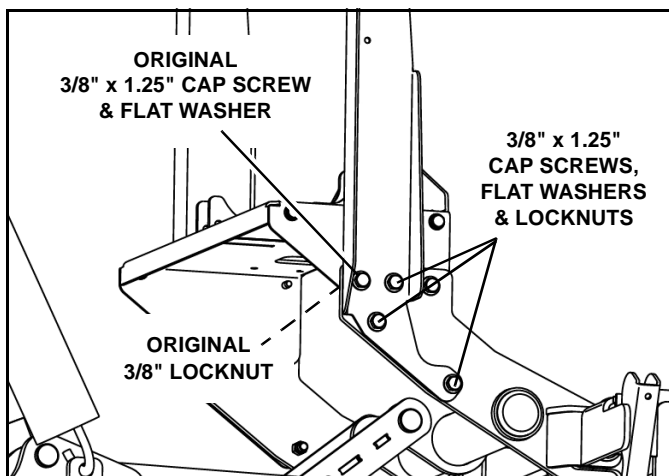
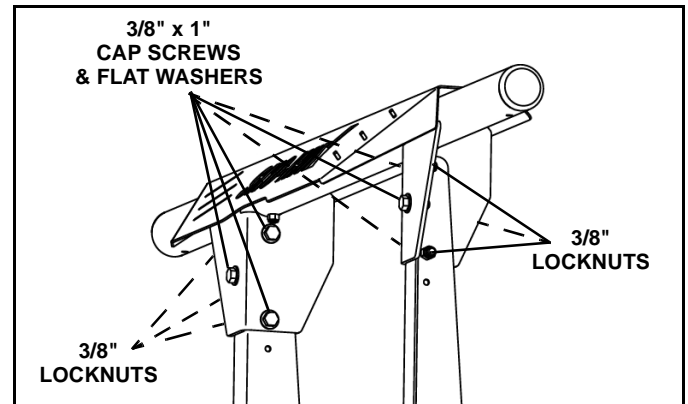

Figure 1-15
Figure 1-16
21. Position the DS light support bracket in position against the LLLB and power unit platform and loosely secure with the original cap screw, flat washer and locknut. (See Figure 1-15).
22. Install (3) 3/8" x 1.25" cap screws with (3) flat washers and (3) locknuts from the provided parts into the remaining three light support bracket holes, but do not tighten completely. (See Figure 1-15).
23. Repeat steps 20, 21 and 22 to install the passenger side (PS) light support bracket to the LLLB and power unit platform.
24. Secure light bar to supports with (6) 3/8" x 1" screws with (6) flat washers and (6) lock nuts. Tighten cap screws to 45 lb-ft. (See Figure 1-16).
25. Align light bar supports to vertical position and tighten (8) LLLB/light support brackets/power unit platform cap screws to 45 lb-ft. (See Figure 1-15).